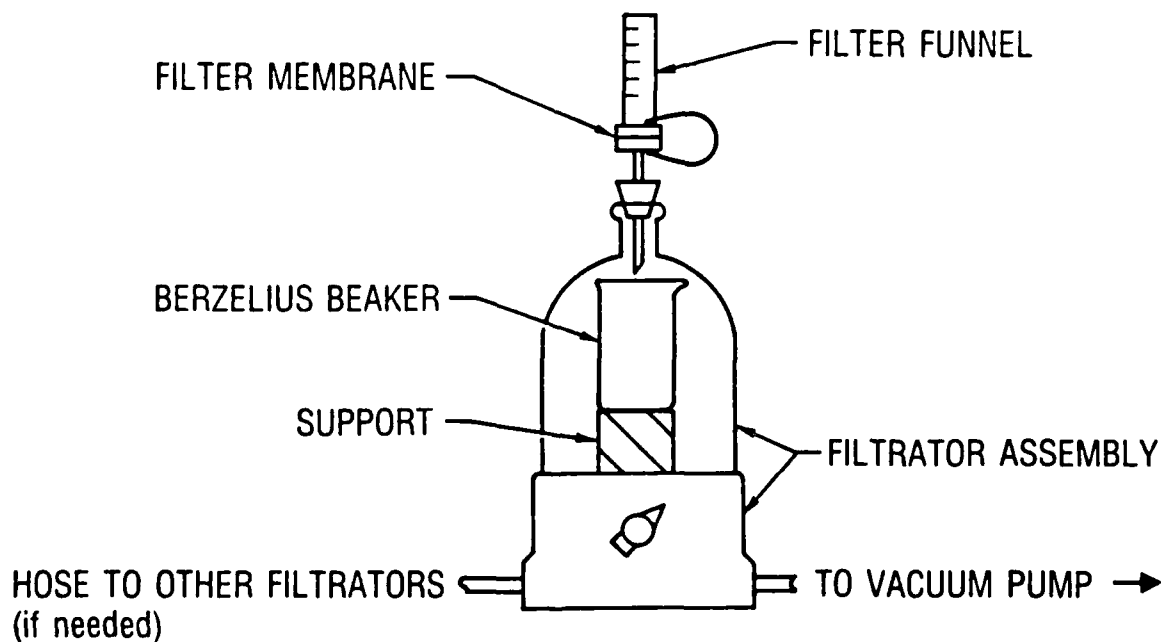

Fig. A-1. Vacuum Filtration System for NVR Extraction From Sample
4.3(AB) Vacuum filtration system, 25-mm diameter, consisting of a membrane filter funnel, Fisher Filtrator assembly(2) and vacuum pump that will provide a pressure of 250 Torr (a vacuum of 500 mm Hg). See Fig. A-1.